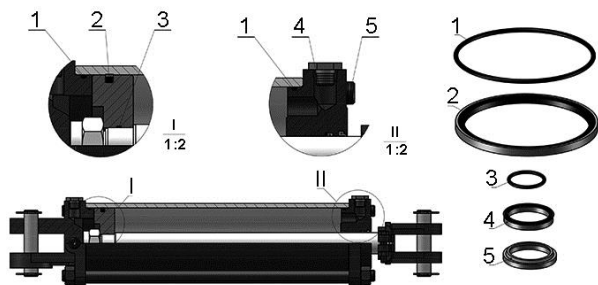

Fig. 1
- c. Replace seals as shown (Fig. 1).